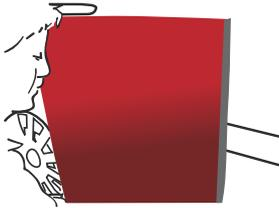

Figure 08
- ▶ Retirer tout le liner. (FIG. 08)